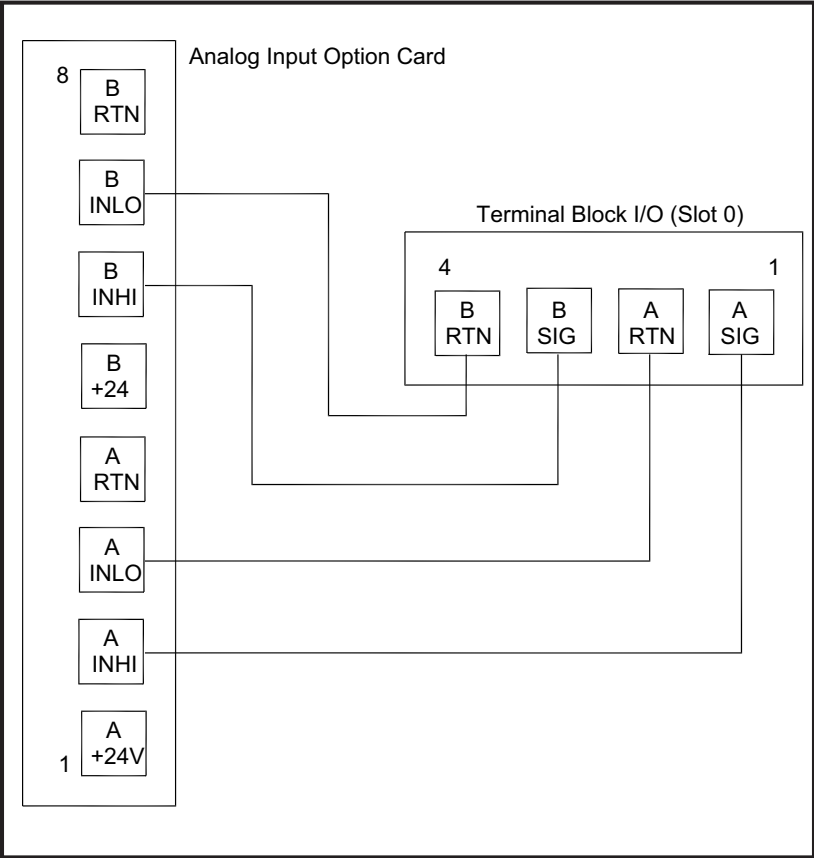
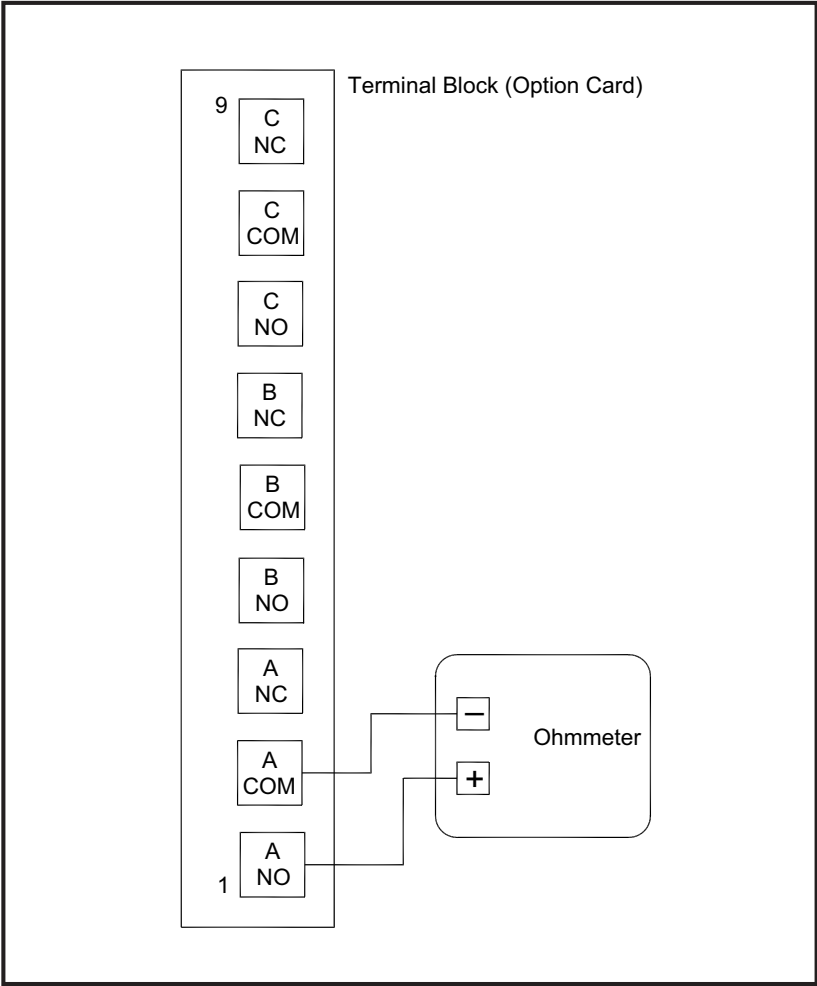
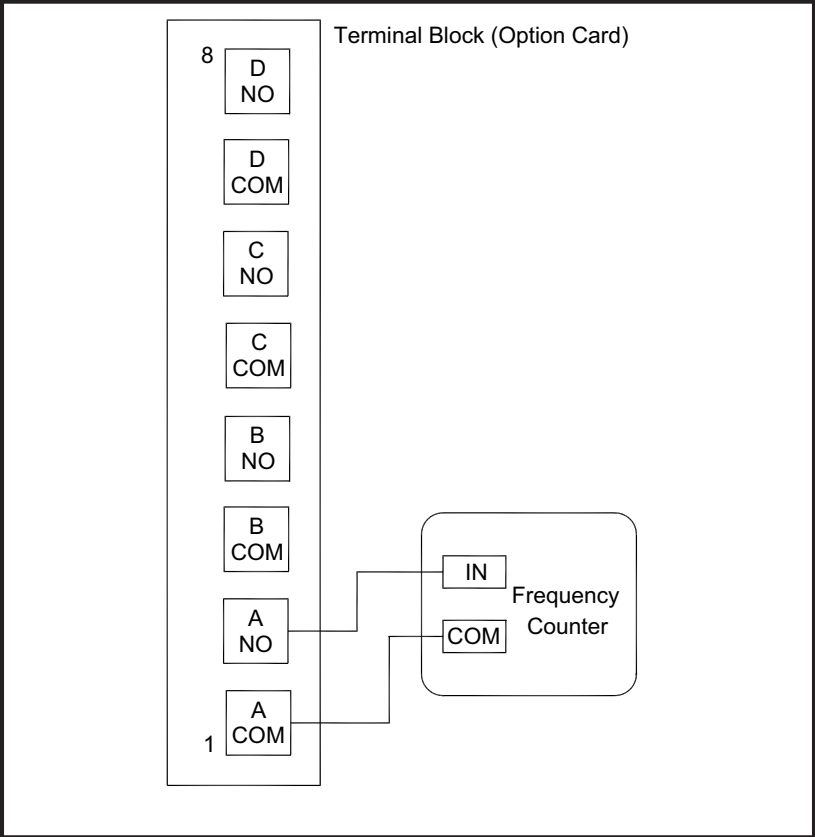
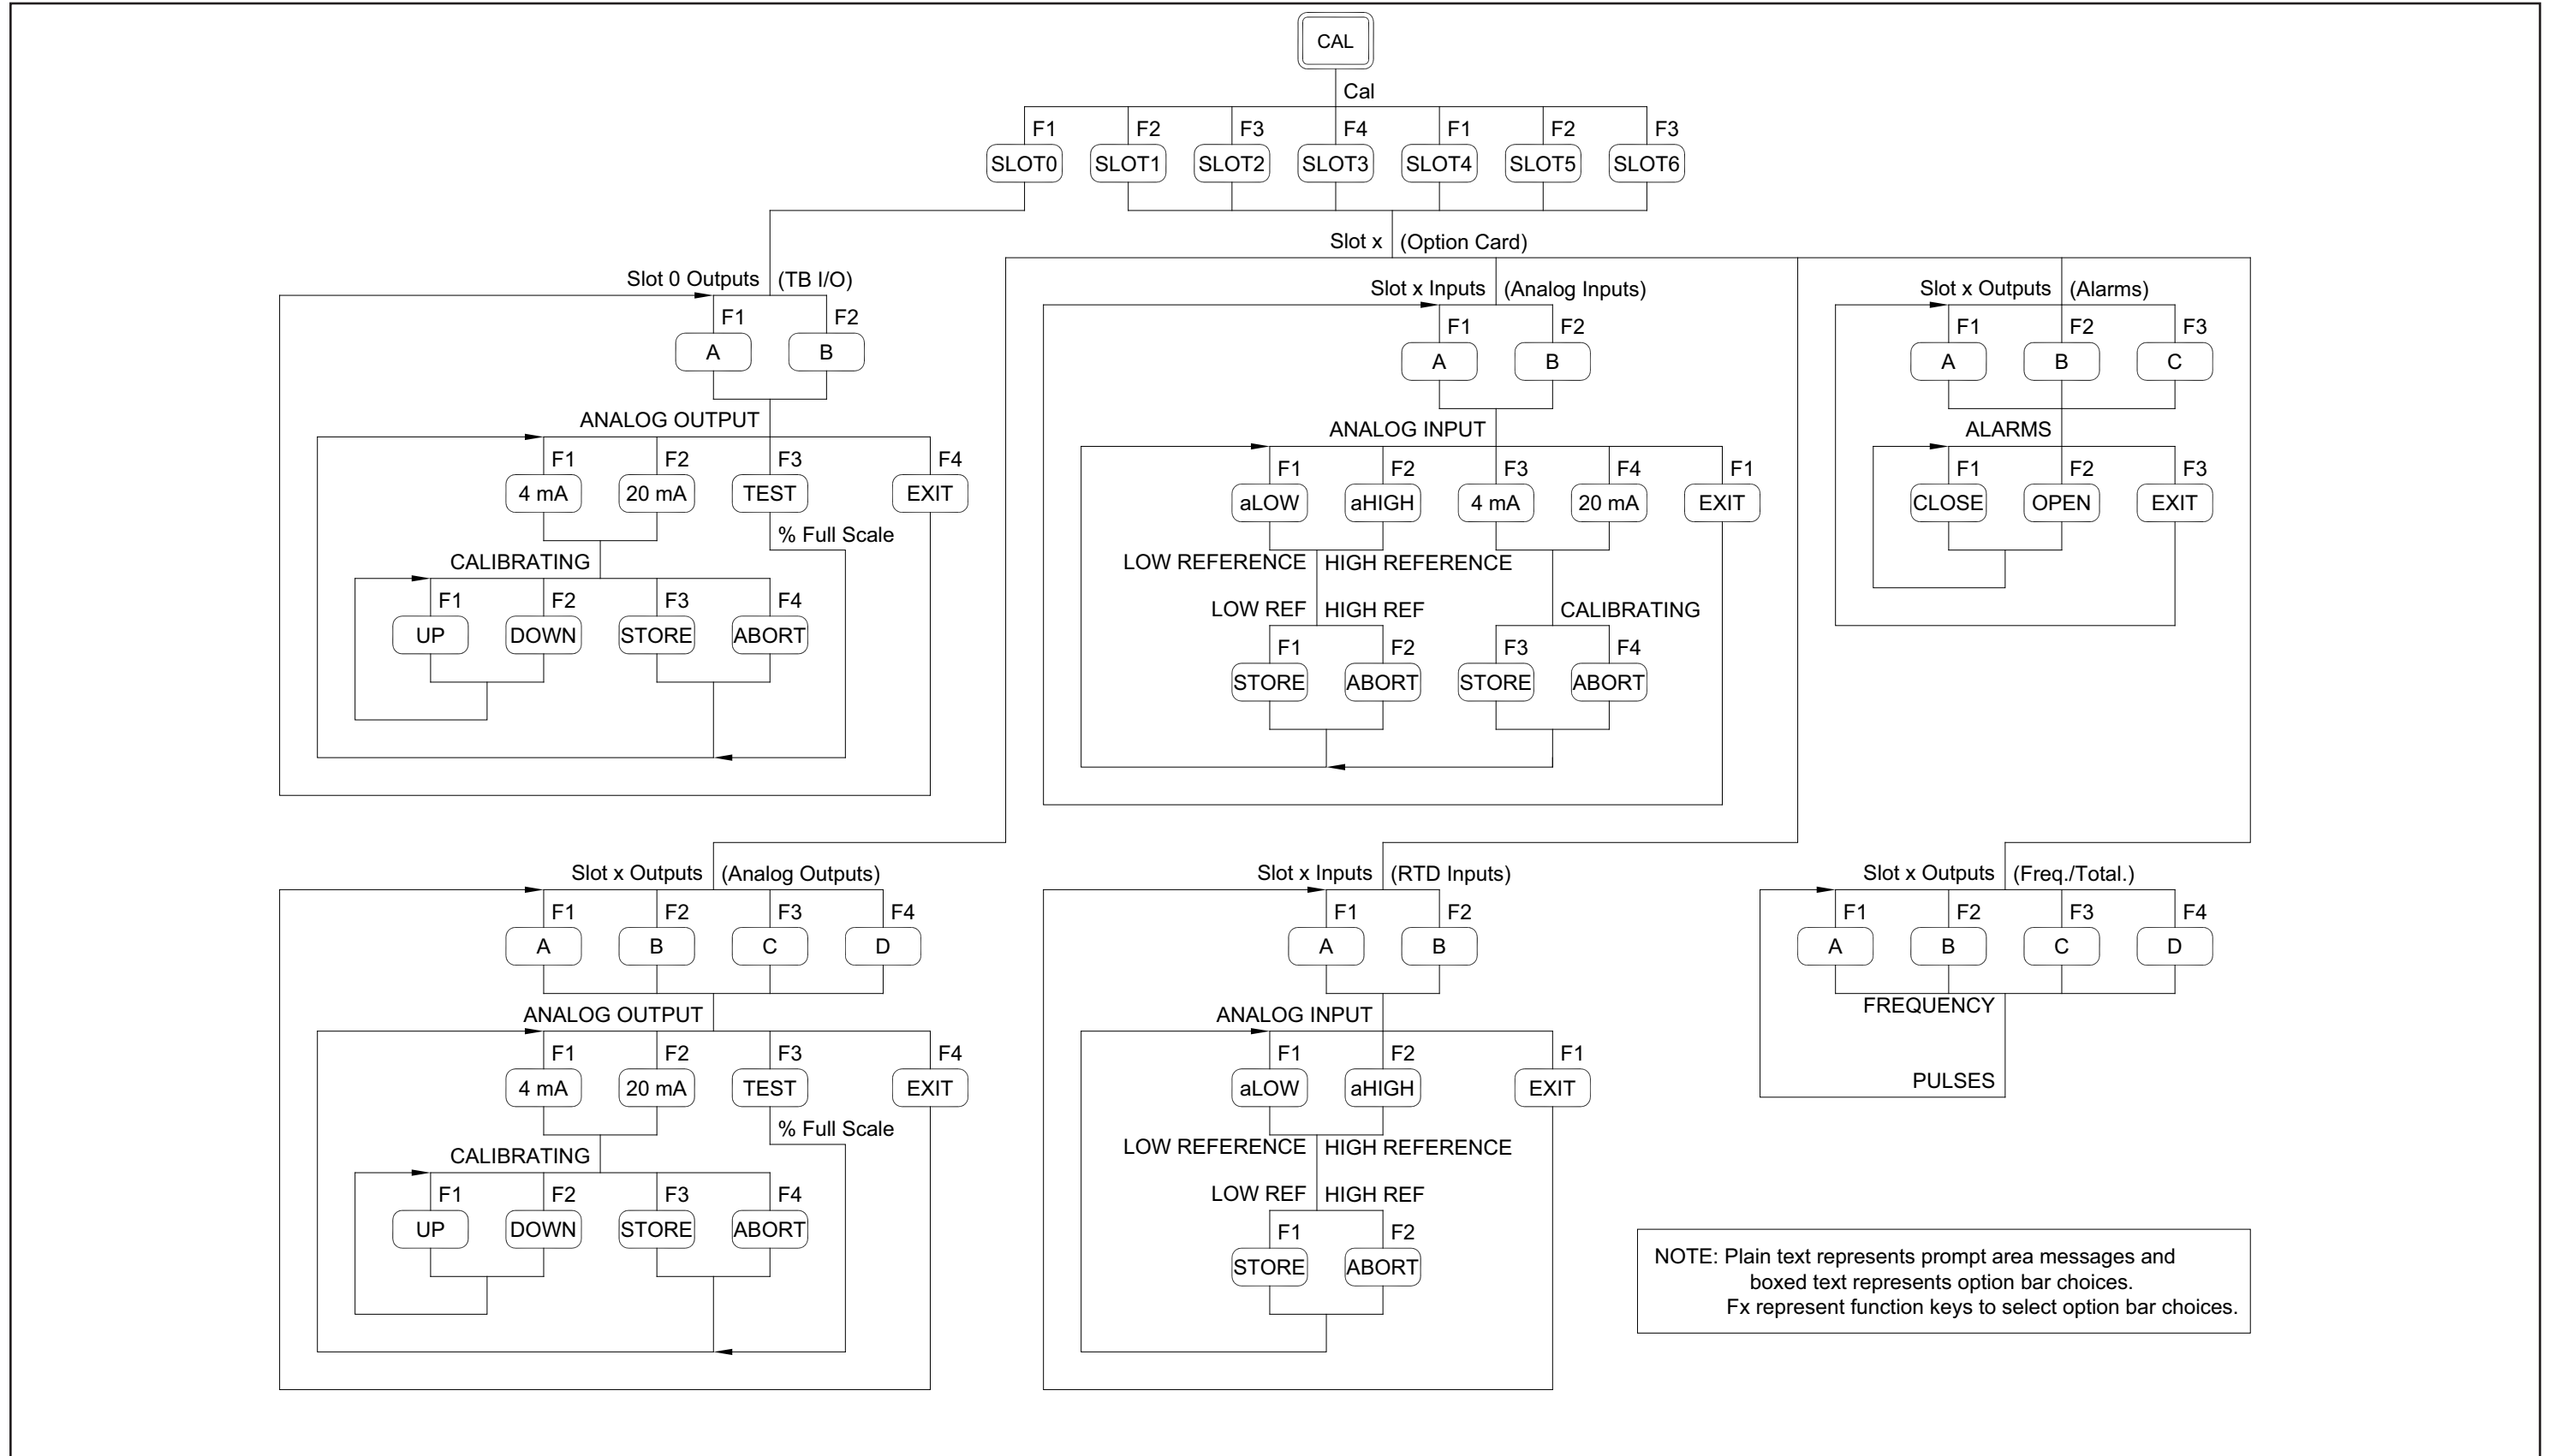

Figure 3: Analog Input Calibration Connections
Figure 4: Typical Ohmmeter Connections
Figure 5: Frequency Counter Connections
Figure 6: Calibration Menu Map
Connect the Slot X analog output(s) (or an independent calibrated current source) to the analog input(s) on the option card, as shown in Figure 3 below. Refer to the menu map in Figure 6 on page 13 as a guide.
The procedure for calibrating Input A is identical to that for calibrating Input B. However, when calibrating Input B, be sure a calibrated current source is connected to the appropriate pins on the terminal block. See Figure 3 on page 5 for the correct pin numbers.
1. Connect the 4 mA current source to the currently selected analog input, as shown in Figure 3 on page 5.
1. Connect the 20 mA current source to the currently selected analog input, as shown in Figure 3 on page 5.
Alarm relays may be added to the Model DF868 by installing an *Alarms Option Card* in one (or more) of the six expansion slots. Each option card includes three alarm relays, which are designated as A, B, and C. To test the alarm relays, connect an ohmmeter to the option card terminal block as shown in Figure 4 below. Refer to the menu map in Figure 6 on page 13 as a guide.
Note: *The procedure for testing Alarm Relay A is identical to that for testing Alarm Relays B and C. However, make sure that the ohmmeter is connected to the desired normally-open or normally-closed contact of the currently selected relay. See Figure 4 on page 9 for the correct pin numbers on the option card terminal block.*
Totalizer/Frequency outputs may be added to the Model DF868 by installing a *Totalizer/Frequency Option Card* in one (or more) of the six expansion slots. Each option card includes four outputs, which are designated as A, B, C and D. To test the outputs, connect a frequency counter to the card's terminal block as shown in Figure 5 below. Refer to the menu map in Figure 6 on page 13 as a guide.